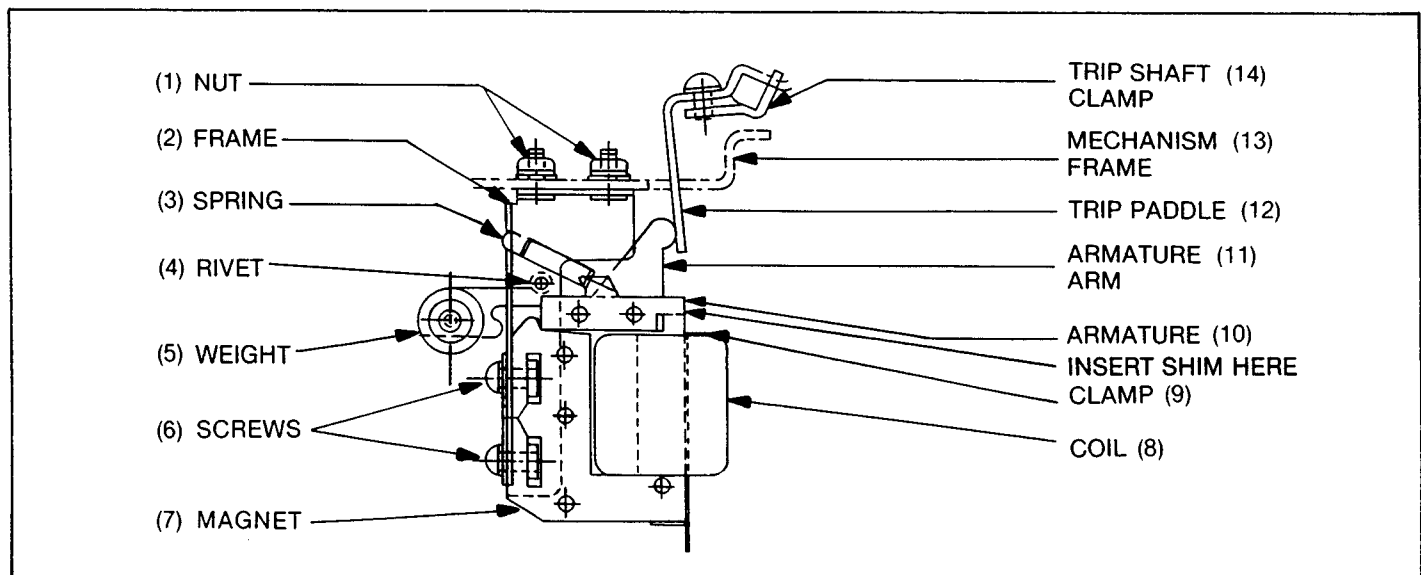

Fig. 11. Shunt trip device
The entire shunt trip device may be dismantled by disconnecting the coil leads and removing nuts (1), Fig. 11.
The only adjustment required on the shunt trip device is that which ensures positively that the breaker will trip when the device is activated. To be sure of this, armature arm (11), Fig. 11, must travel from 1/32 to 1/16 inch beyond the point at which the breaker trips. A good method of checking this is to insert a 1/32-inch shim between the magnet (7) and armature (10) and with the breaker closed, push down on the arm (11), closing the armature against the magnet. If the breaker trips, there is sufficient over-travel. If adjustment is necessary, trip paddle (12), Fig. 11, may be formed towards or away from the armature arm (11). Assure a minimum clearance of 1/16 inch between the trip paddle and breaker frame with the mechanism in the RESET position.
### Shunt Trip Device (Fig. 11)
The shunt trip device typically is mounted underneath the horizontal cross frame member, just to the left of the front escutcheon. It is composed of a magnet (7), Fig. 11, coil (8) and armature (10). The armature has an extended arm or striker (11) which bears against the trip paddle (12) on the trip shaft when the coil (8) is energized. This displaces the trip latch in the